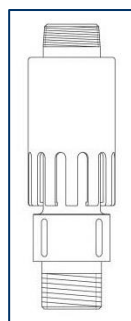

Fig. 3
9. After installation of the last riser pipe, install the transition adapter to the well head (see fig. 3) and secure with the clamping screw. Do the pipe connection as shown. The installation of a backflow preventer above the riser line is strongly recommended due to possible water hammers.